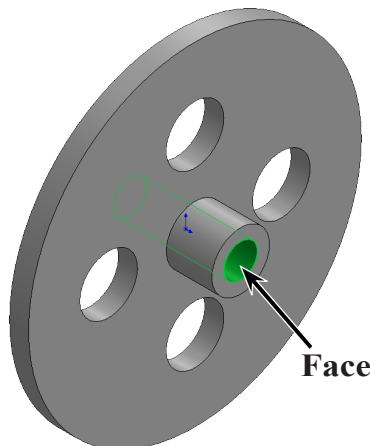

Fig. 18
Step 1. Click the **inside cylindrical face of axle hole** to select it, **Fig. 18**.